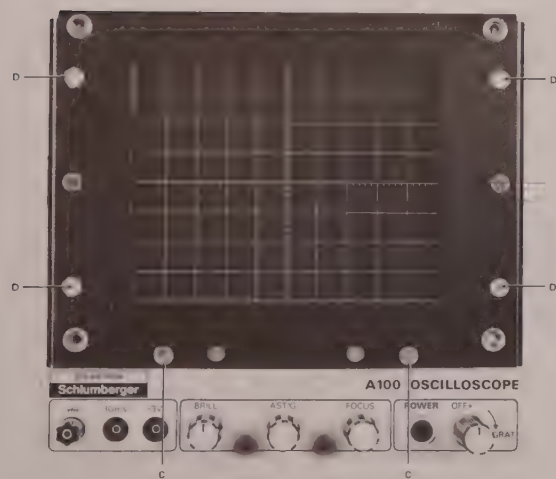

Fig. 8.3b CRT Removal
8. Referring to Fig.8.3b, remove the two screws marked 'C'.
14. Remove the four screws marked 'D' on Fig. 8.3b and pull the graticule assembly away from the CRT face.